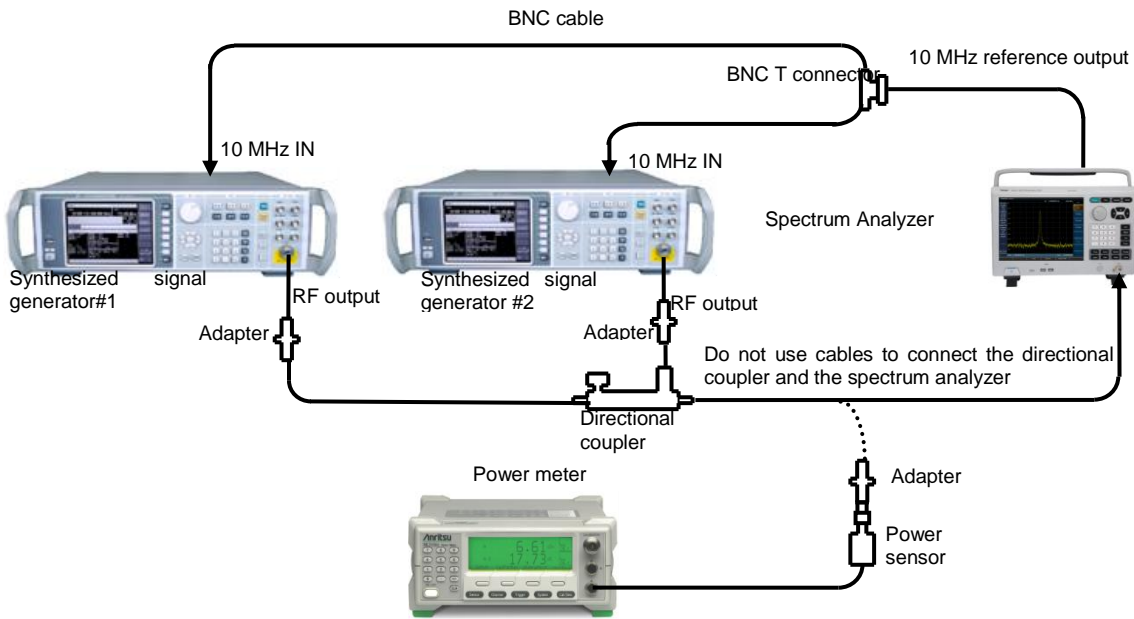

Fig 11-12 1 dB gain compression test block diagram
- 2) Connect the test instrument with cable as shown in Fig 11-12. The spectrum analyzer provides a reference frequency for the two signal sources, and the RF directional coupler is used.
- 9) Disconnect the output of RF directional coupler from the 4041. Connect it with the power sensor as shown by the dashed line in Fig 11-12. Set the frequency of the calibration factor of power meter to 2 GHz. At this time, the reading of power meter is the 1 dB compression point at 50 MHz to 4 GHz band. Record it as test
- 10) Connect the test instrument as shown in Fig 11-12. As shown in the Fig, a millimeter wave directional coupler is used. Set the center frequency of 4041 to 9 GHz and the frequency of synthesized signal generator #1 to 9.01 GHz, and the frequency of synthesized signal generator #2 to 9 GHz.
- 13) Disconnect the output of millimeter wave directional coupler from the 4041. Connect it with the power sensor as shown by the dashed line in Fig 11-12. At this time, the reading of power meter is the 1 dB compression point at 4 GHz to 13 GHz band. Record it as test result in the "4041 Series Spectrum Analyzer Record Sheet".
- 14) Connect the test instrument as shown in Fig 11-12. As shown in the Fig, a millimeter wave directional coupler is used. Set the center frequency of 4041 D/E/F/G to 18 GHz, the frequency of synthesized signal generator #1 to 18.01 GHz, and the frequency of synthesized signal generator #2 to 18 GHz.
- 17) Disconnect the output of millimeter wave directional coupler from the 4041. Connect it with the power sensor as shown by the dashed line in Fig 11-12. At this time, the reading of power meter is the 1 dB compression point at 13 GHz to 44 GHz band. Record it as test result in the "4041 Series Spectrum Analyzer Record Sheet".